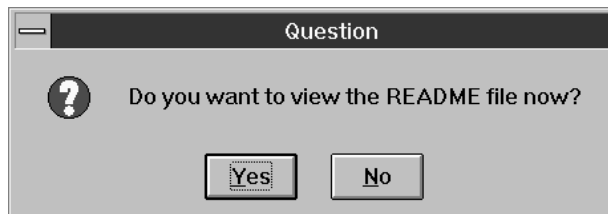

Figure 9. View Read Me File Prompt Screen
11. When the software is installed a prompt screen appears [Figure 9].